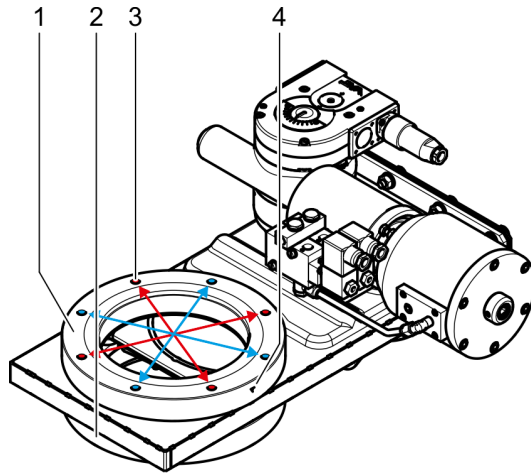

Figure 4-1
2. Clean sealing surfaces and seals of both flanges; see (1) and (2) according to «Figure 4-1» on page 13 .
4. Mount four screws (3) according to «Figure 4-1» evenly in crosswise order until the seal touches the sealing surface.